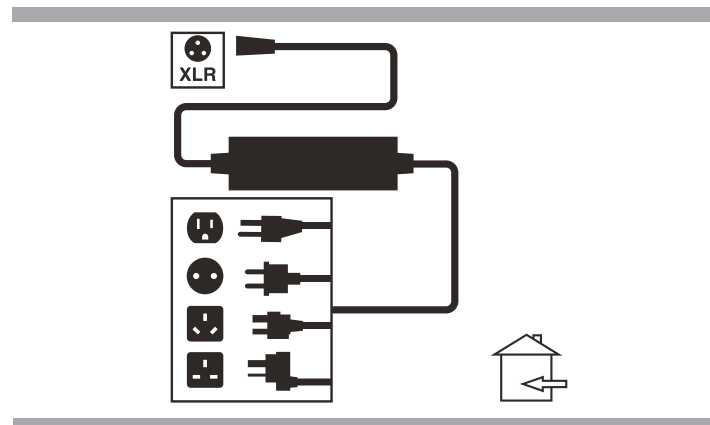

Figure 8. Battery Charger
3. Plug the off-board charger into the off-board charger/programming socket on the controller. **See figure 8.**